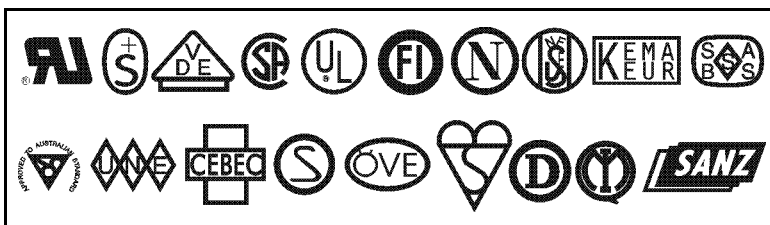

Figure 38
- The AC power plug and IEC 320 connector must bear the certification mark of at least one of the known international safety organizations shown in Figure 38.